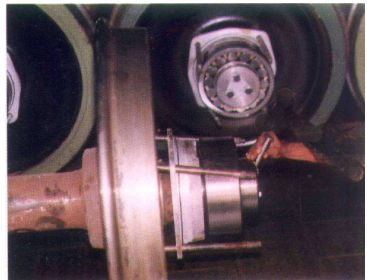

Fig: 4.0
- The date, the month, and the year of attention and workshop code should be punched on the locking plate in case of retaining ring and on the annular nut in case of annular nut type arrangement (see fig. 4.0)